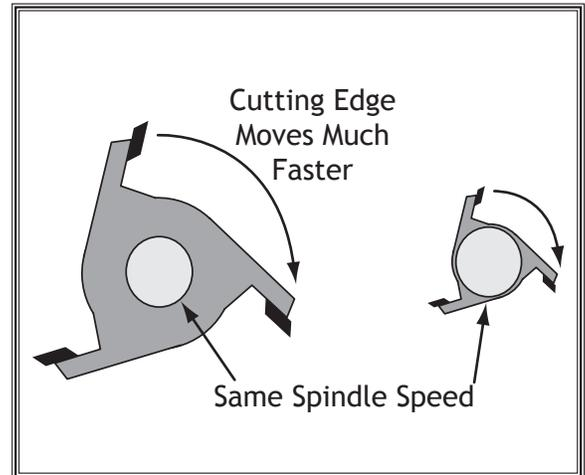

Figure 31. Relative speed of cutting edges between large and small cutters.
- The cutting edges of large cutters travel faster than those of smaller cutters at the same spindle speed, as shown in **Figure 31**. Use the slower speed for large cutters.